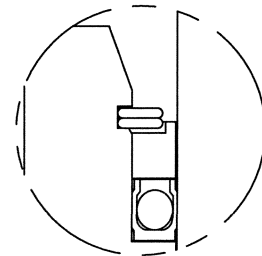

**FIG. 4B**
- 9a. PILOT BALANCED VALVE PLUG - Remove piston ring. (Use caution when removing piston rings to prevent damage if they are to be reused.) Before removing pilot/plug stem assembly, check to ensure pilot assembly is loaded against the retaining plate by the spring. Remove socket head capscrews, pilot retaining plate and pilot plug/stem assembly. For 2" & 3" valves, if spring load is present, the spring does not need to be removed. If spring load is not present, grind out tack weld (see Fig. 4A), unthread spring adjusting guide from the plug and remove the spring and the upper spring guide. If threads are damaged, parts will need to be replaced before reassembly. For all other Pilot Balanced Trims see Fig. 4B.
- 4a. PILOT BALANCED VALVE PLUG (See Fig. 4B & 7)